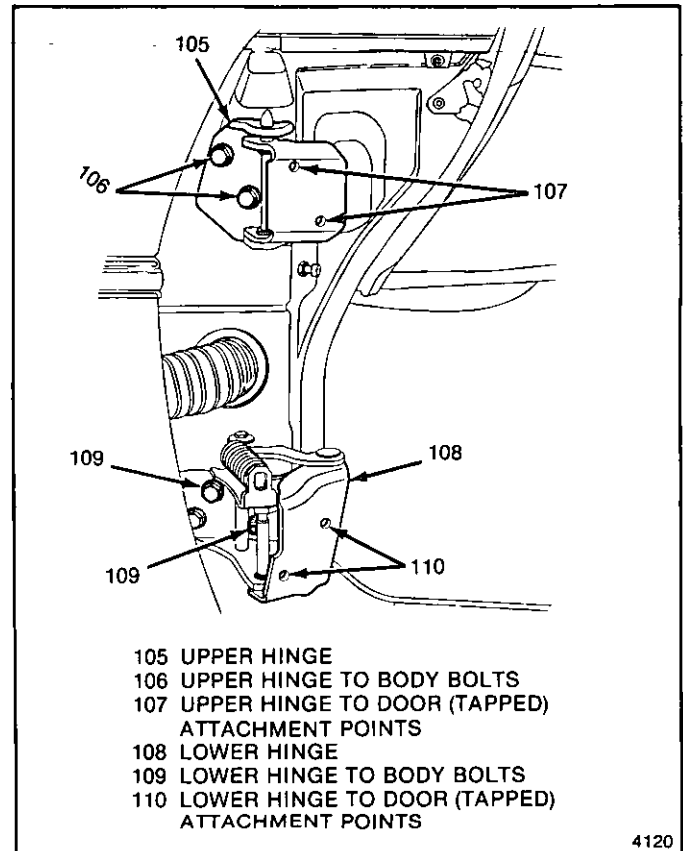

Fig. 5-29-Door Hinges
↔ Remove or Disconnect (Figure 5-29)
↔ Install or Connect (Figure 5-29)
**Install or Connect (Figure 5-29)**